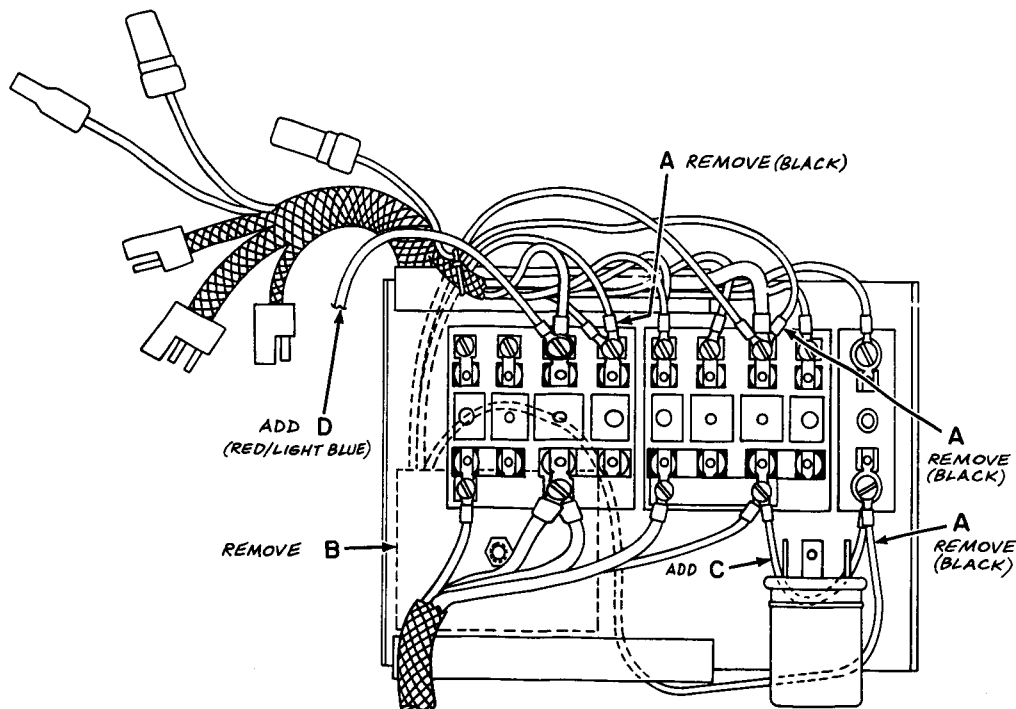

FIGURE 2-5
8. Disconnect the three count retainer wires (black) at A, Figure 2-5, and remove the count retainer, B.
9. Add jumper wire, C, Figure 2-5, from the hot side of the 15-amp fuse block to the hot side of the 1-amp fuse block.
10. Add the red/light-blue wire, D, Figure 2-5, to the protected side of the left fuse (15-amp) in the left fuse block. Route the wire along the main harness to the side console. Use the plastic ties provided to fasten the wire to the harness.